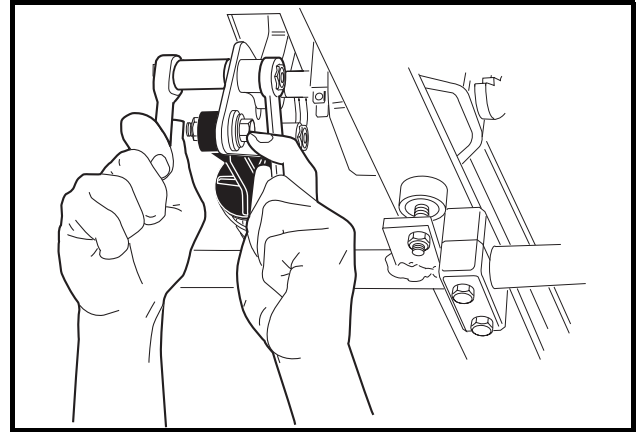

Figure 5-17 Accelerator Pedal Height Adjustment
- 5.1. Loosen the nut and bolt (Figure 5-17, Page 5-14) securing the accelerator pedal to the pivot plate.